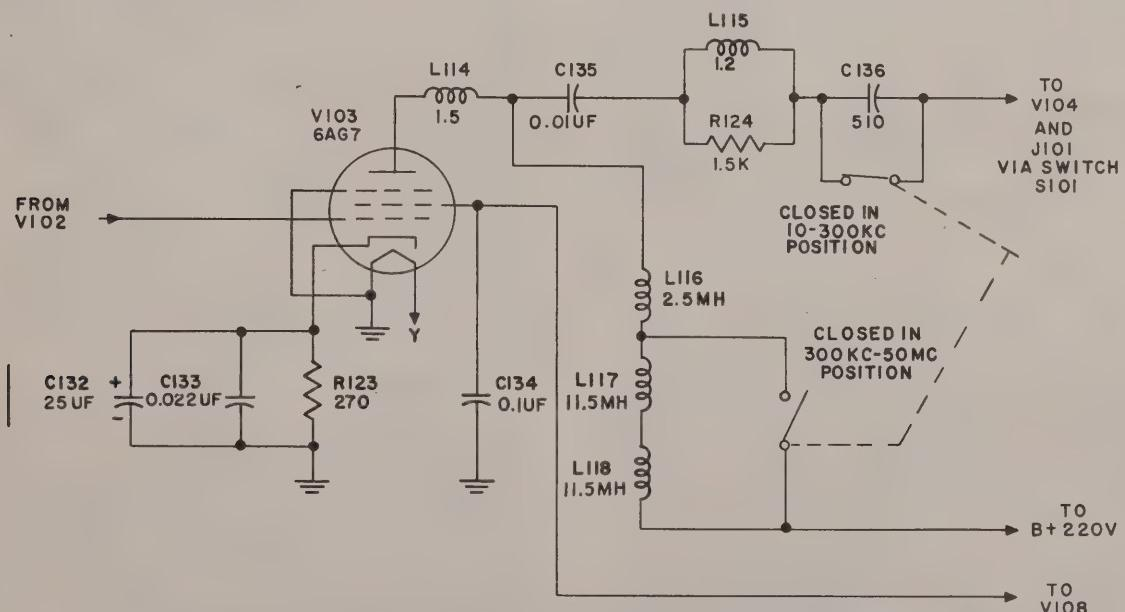

Figure 2-4. Simplified Schematic Diagram of the Output Amplifier Stage
*d. OUTPUT AMPLIFIER (See figure 2-4).*
The output amplifier uses a power pentode type 6AG7, (V103). Bias for this stage, operating Class A, is obtained by the voltage drop across cathode resistor (R123). In order to bypass this resistor properly at all signal frequencies generated, capacitors C132, 25 uF, and C133, .022 uF, are used in parallel combination. The signal to be amplified, which may be modulated by an internally or externally generated audio frequency, appears at the grid (pin 4) of the tube (V103). The plate output circuit contains three major branches; first, the plate voltage is shunt-fed through the r-f chokes L114, L115, and L118 (Fig. 2-4). Next there is a series compensating network consisting of L114, L115, and its damping resistor (R124). C135 is simply a coupling capacitor. The 499 ohm resistor (R130) and the 55.56 ohm input impedance of step attenuator (AT101) in
(See figures 2-4 and 2-8).